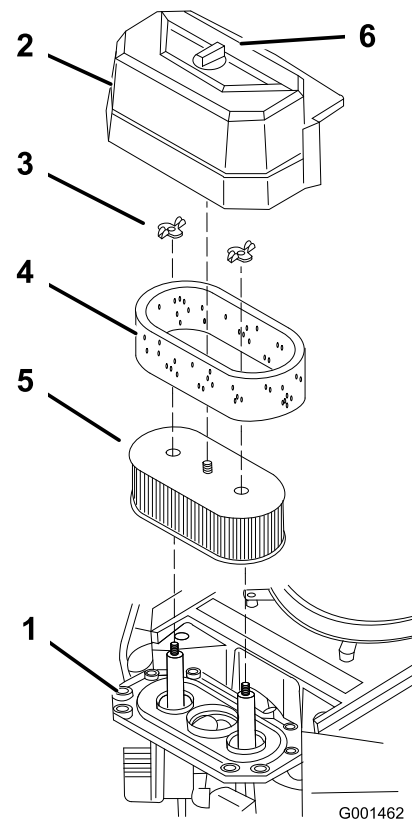

Figure 24
3. Clean around the air cleaner to prevent dirt from getting into the engine and causing damage (Figure 24).
4. Unscrew the cover knob and remove the air cleaner cover (Figure 24).
5. Remove the 2 wing nuts and remove the air cleaner assembly (Figure 24).
6. Carefully pull the foam element off the paper element (Figure 24).
1. Do not clean the paper filter. Replace it (Figure 24).
1. Carefully slide the foam element onto the paper air cleaner element (Figure 24).
- Place the air cleaner assembly onto the air cleaner base and secure it with the 2 wing nuts (Figure 24).
- Place the air cleaner cover into position and tighten the cover knob (Figure 24).